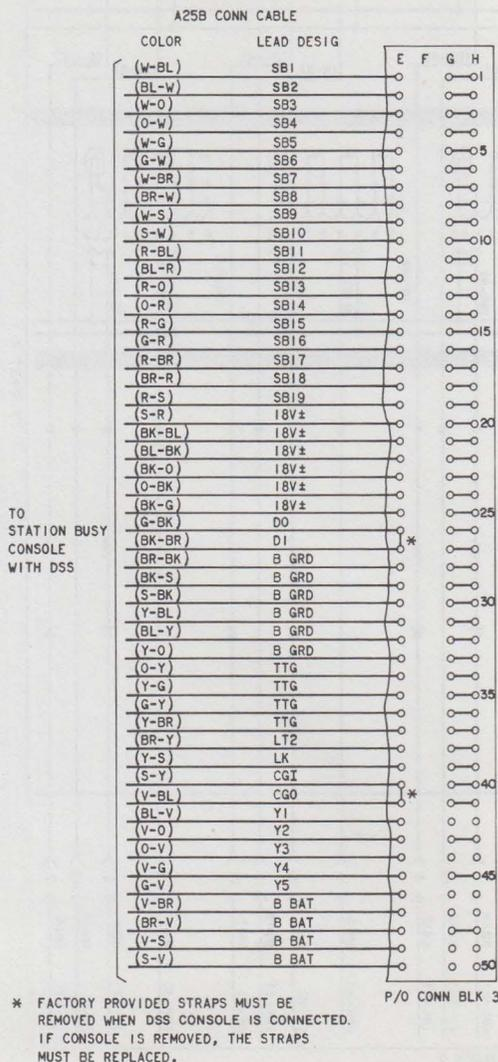

Fig. 45—Connections For Station Busy Console (6A1) With DSS
4.85 The A25B connector cable from the station busy/DSS console is cut down on connecting block 3, column E, using standard cutdown. See Fig. 45 for connections. **The D0 to D1 and CG0 to CG1 straps on connecting block 3 must be removed when the console is installed.**